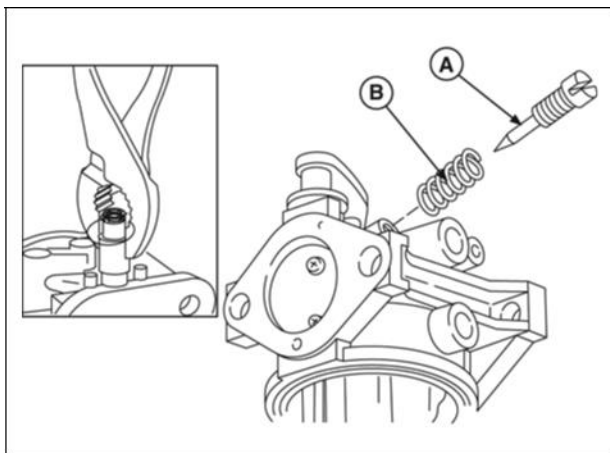

Figure 10
7. If idle mixture screw (A, Figure 10) is equipped with adjustment limiter cap, use pliers to remove it before removing idle mixture valve.
8. Remove idle mixture screw and spring (B).